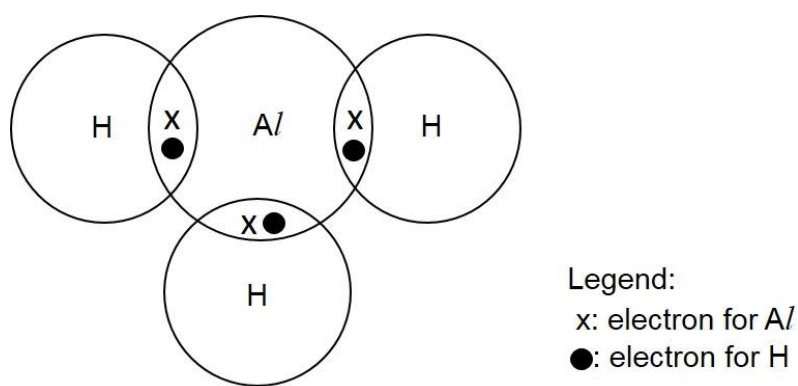

Fig. 3.2
- (a) Fig. 3.2 shows the arrangement of electrons in aluminium hydride.